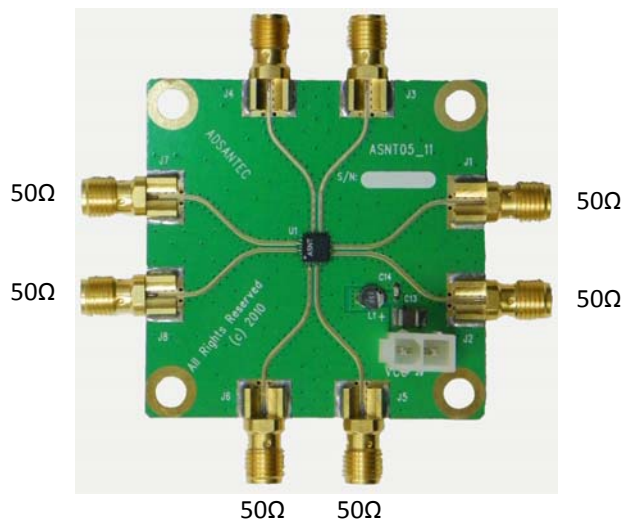

Fig. 5. Impedance of I/O Connectors
- Measure the resistance of all connector pins to VCC, including the power supply, while making sure the board is grounded. All I/O ports should measure 50 Ω while on the power supply connector, VCC should be a short, and GND should be high impedance. Fig. 5 shows the resistance values of the described I/O connectors.